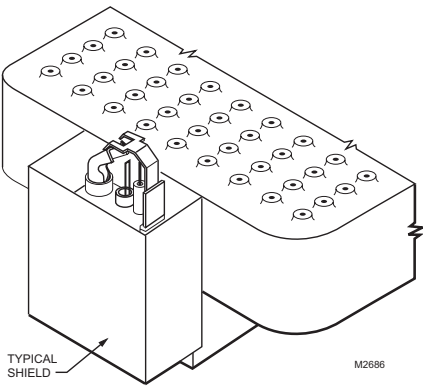

Fig. 5. Proper shielding of pilot flame.
2. If all mounting and location instructions are followed but pilot continues to go out, construct a shield to protect pilot flame from main burner ignition, extinction and drafts. See Fig. 5.